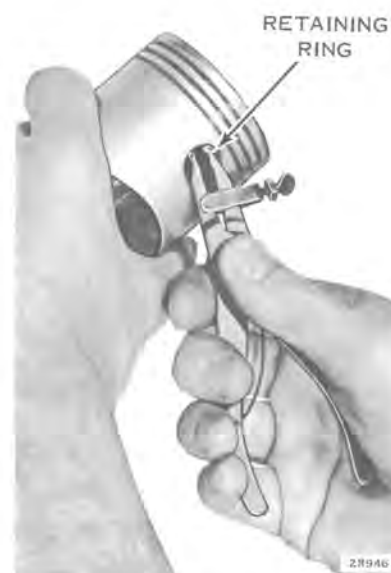
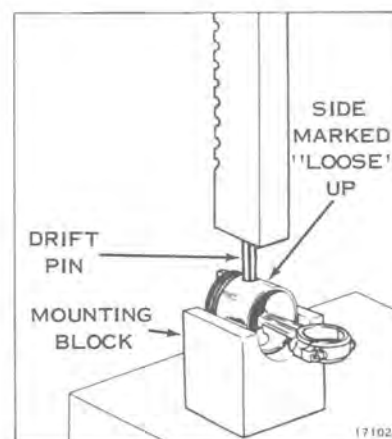

Figure 9-7
Figure 9-8
- m. If necessary to remove connecting rods from pistons, remove wrist pin retaining rings, using Truarc No. 1 pliers (Service Tool #303857) (see Figure 9-7). Press out wrist pin to free piston from connecting rod. See Figure 9-8. Piston wrist pin hole marked "Loose" should be up when pressing out wrist pin. This will prevent damage to piston.